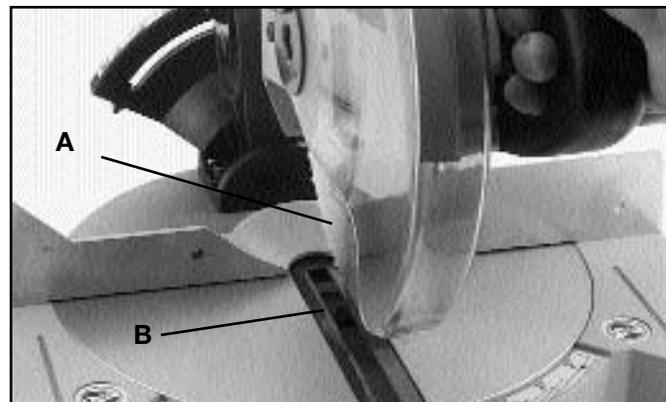

Fig. 17
Lower the saw blade arm as far as it will go and check to see if the saw blade comes in contact with the table insert. If the saw blade (A) Fig. 17, contacts the front edge or the rear edge of table insert (B) on its downward travel, proceed with the following adjustment.
**NOTE:** There should be a slight clearance between the saw blade (A) Fig. 17, and table insert (B) as shown. Repeat **STEP 2**, if necessary.